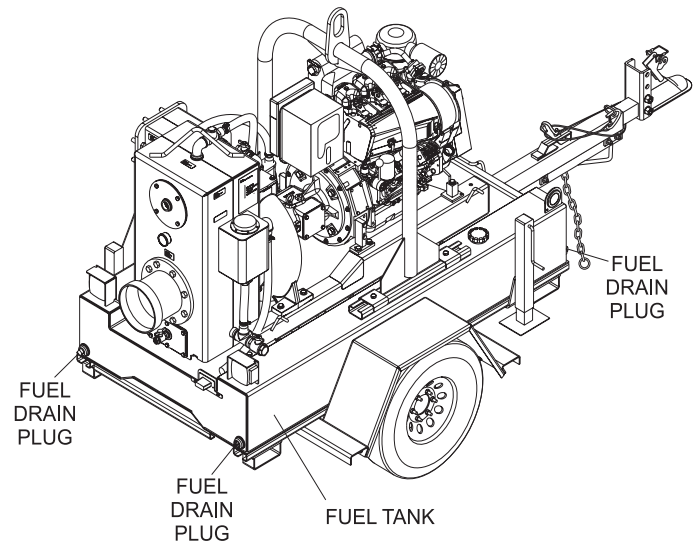

Figure 18. Fuel Tank/Drain Plug
Unscrew the fuel drain plug on the fuel tank (Figure 18) to remove water and sediment every 500 hours. If the purity of the fuel being used is of lesser quality drain the fuel tank more frequently.
2. Open the drain plug on the fuel water separator (Figure 18) to remove any sediment or water that may have accumulated in the fuel water separator reservoir.